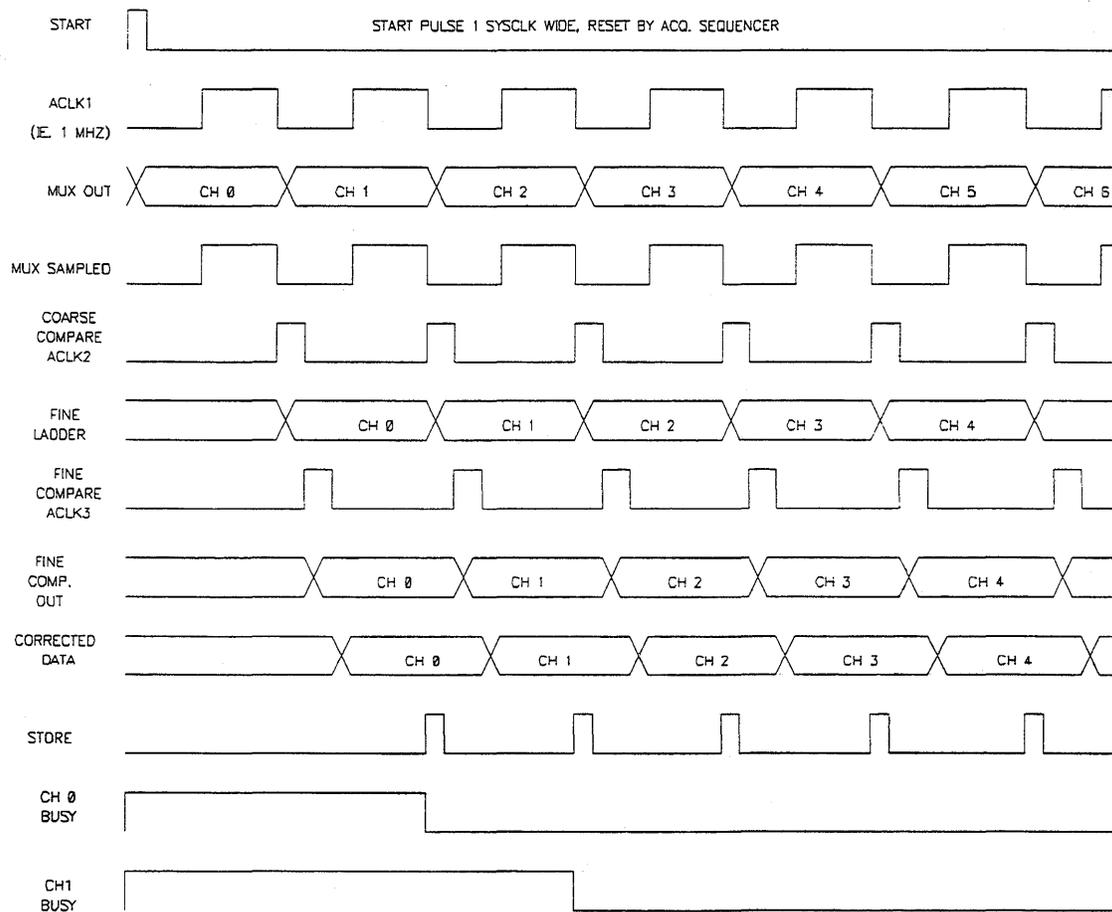

Figure 7-2 Pipeline A/D Converter Timing
In “pipeline” mode the sequencer can be started by the Burst Sequencer, or the DSP. The source of the start command is determined by bits in the Acquisition Command Register. When started, the sequencer selects Channel 0 of the multiplexer. The 2-step Flash A/D convertor is then stepped through it’s conversion sequence. Finally the digital data is stored in the first DSP General Purpose register. This sequence is repeated until all 8 channels are converted and sequentially stored. Channels (0) through (5) are stored in DSP General Purpose registers which allows access to the data without data move instructions. Channels (6) and (7) are stored in Memory Mapped registers. (see Figure 7-2 and Figure 7-2) The sequencer then goes to its reset state until another start pulse is detected.
Figure 7-2 shows the timing of the A/D conversion sequence in “pipeline” mode. When a start is detected, the Acquisition Clock (ACLK1) starts. The analog multiplexer is switched to channel 0 on the falling edge of ACLK1 and the multiplexer output is sampled by the Coarse and Fine comparators while ACLK1 is high.
In “Single Channel” mode a single channel can be converted and stored. This supports Auto-zeroing or allows for sampling between servo sectors. The conversion process is started by writing the Single Channel Mode Channel Address and the Single Channel Mode Start bit in the Acquisition Command register. The associated busy bit will be active until the data is stored. The timing for a single channel convert is as shown for channel 0 in Figure 7-2. An interrupt can be sent to the DSP after the storage of the data if this is set in the Acquisition Command Register.